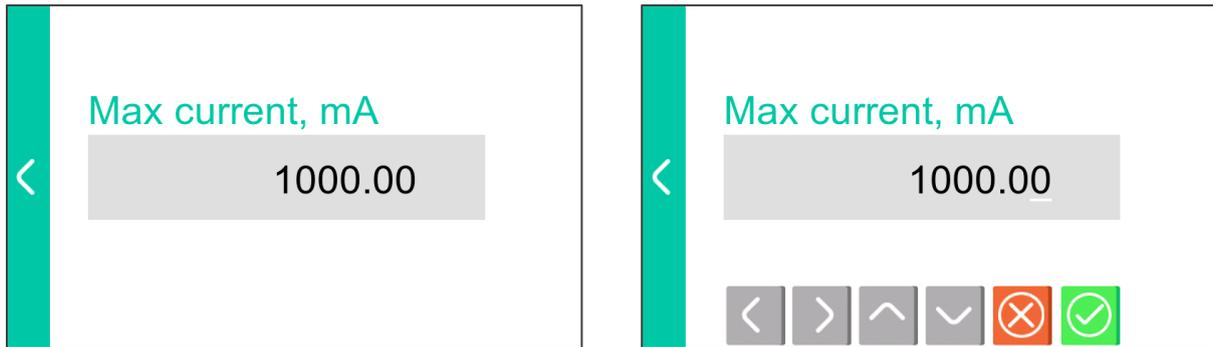

Figure 25 – Setting the parameter
3. To set the parameter select it from the list. The new window displays the parameter value stored in the laser memory. To change it, click on the window (fig. 25). Use the left and right arrows to select the digit to change, use the up and down arrows to change the value. Press  button to save the changes and exit menu. Press  button to exit menu without changes.